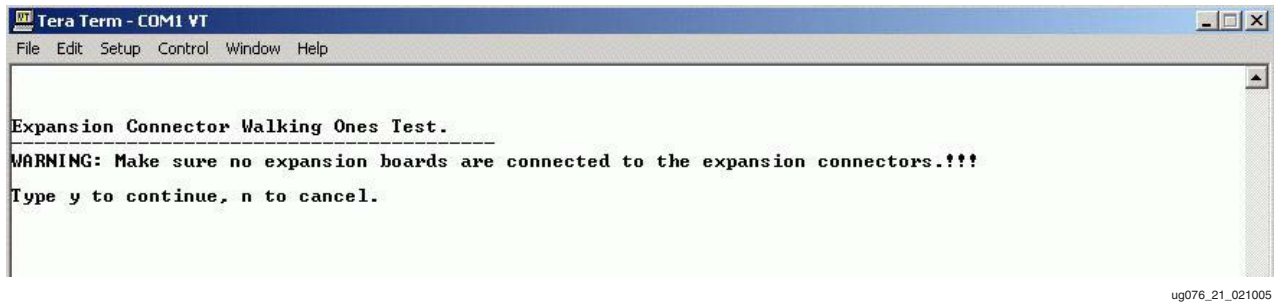

Figure D-21: Confirming Start of the Expansion Port Walking Ones Test
- There is a second prompt before the test starts, as shown in Figure D-21.